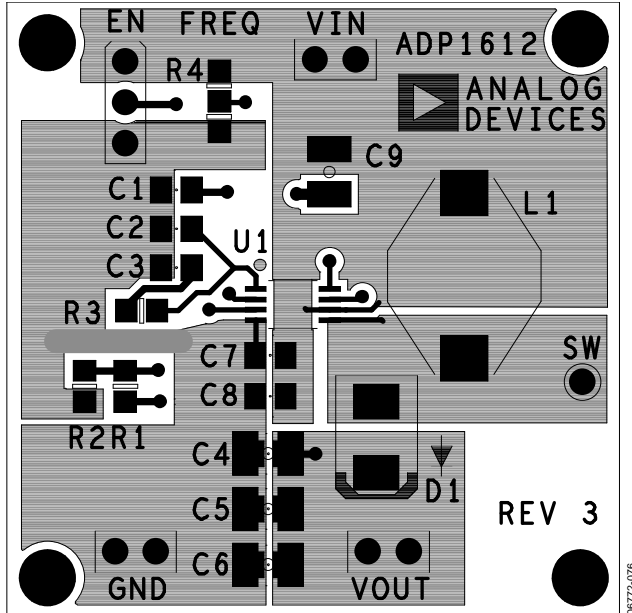

Figure 76. Example Layout for ADP1612/ADP1613 Boost Application (Top Layer)
- Keep the low ESR input capacitor, C_{IN} (labeled as C7 in Figure 76), close to VIN and GND. This minimizes noise injected into the part from board parasitic inductance.
- Keep the high current path from C_{IN} (labeled as C7 in Figure 76) through the L1 inductor to SW and GND as short as possible.
- Keep the high current path from VIN through L1, the rectifier (D1) and the output capacitor, C_{OUT} (labeled as C4 in Figure 76) as short as possible.
- Connect the softstart capacitor, C_{SS} (labeled as C1 in Figure 76) as close to the device as possible. Connect the ground of the softstart capacitor to an AGND plane that makes a Kelvin connection to the GND pin.